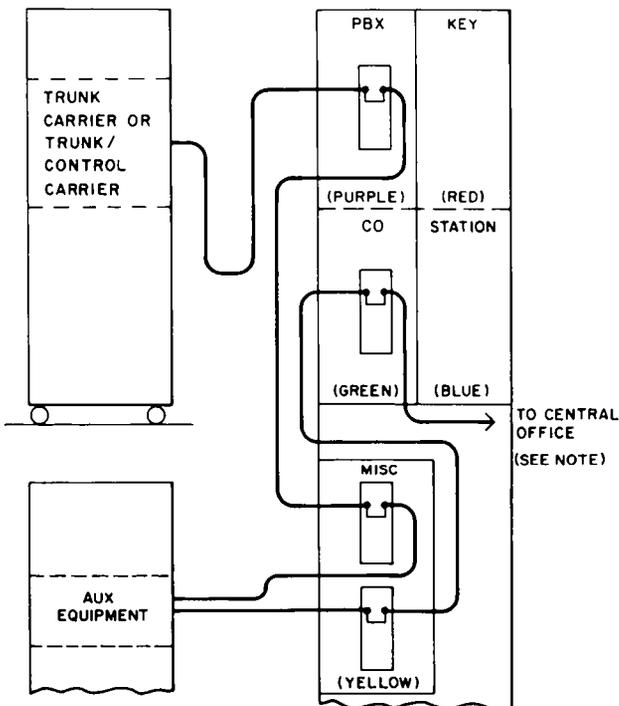

Fig. 43—CO Trunk Connected to Trunk Carrier via Auxiliary Equipment and Cross-Connect Field
6.68 Figure 43 shows a typical trunk connected to the trunk carrier via the auxiliary equipment